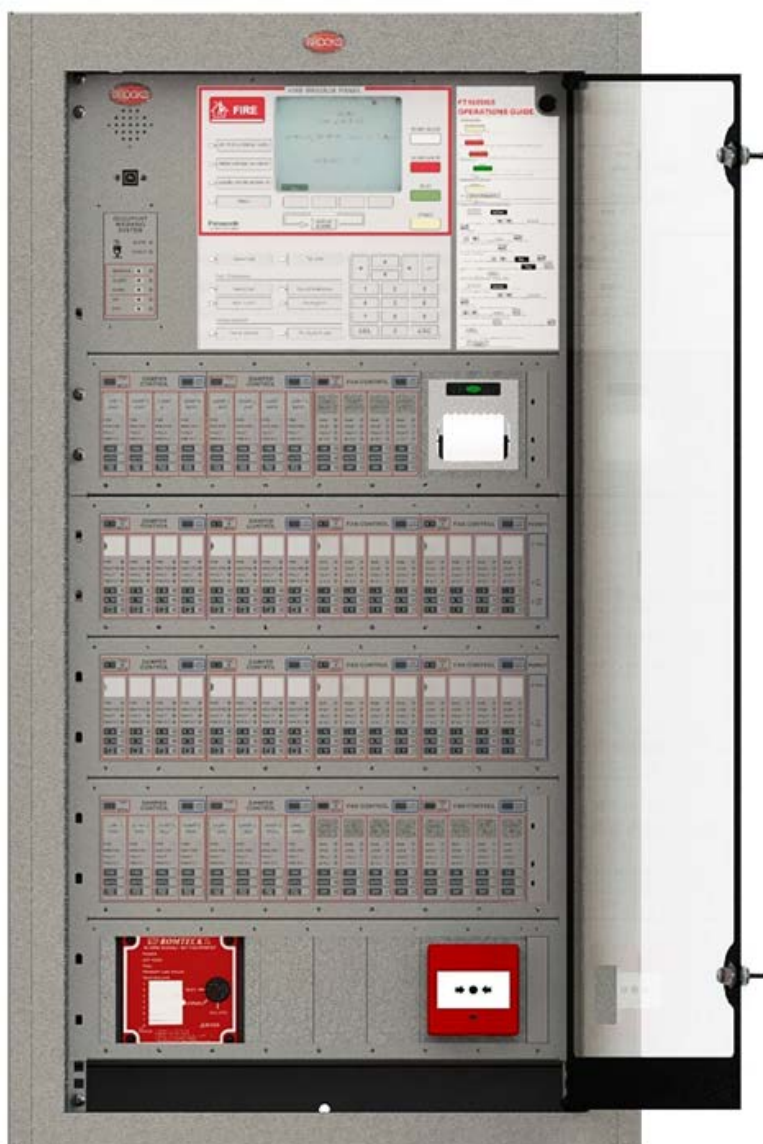

Figure 9 FT1020G3 Mounted in Large 19" Rack Enclosure
- Large enclosure 1078mm High x 600mm wide x 250mm Deep, Figure 9.
A possible layout for FT1020G3 Mounted in Large 19" Rack Cabinet is shown in Figure 9. Small enclosure can also be used for FT1020G3.